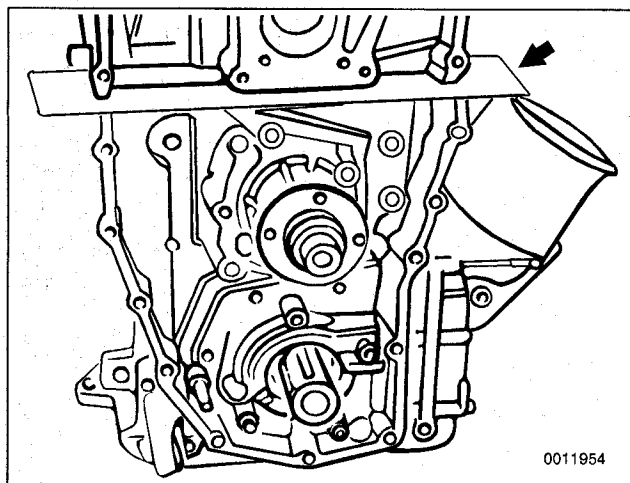

Fig. 15. When installing upper timing chain cover, use thin sheet metal (arrow) to protect profile gasket when installing upper cover.
- Protect top of profile gasket using thin sheet metal (BMW special tool no. 11 2 330 or equivalent). See Fig. 15.